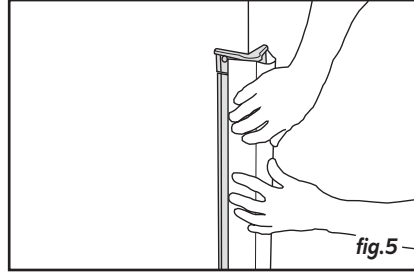

fig.5
- Lastly, fit the PVC profile by positioning one end of it on the aluminium core in abutment with the end-caps (fig.5).